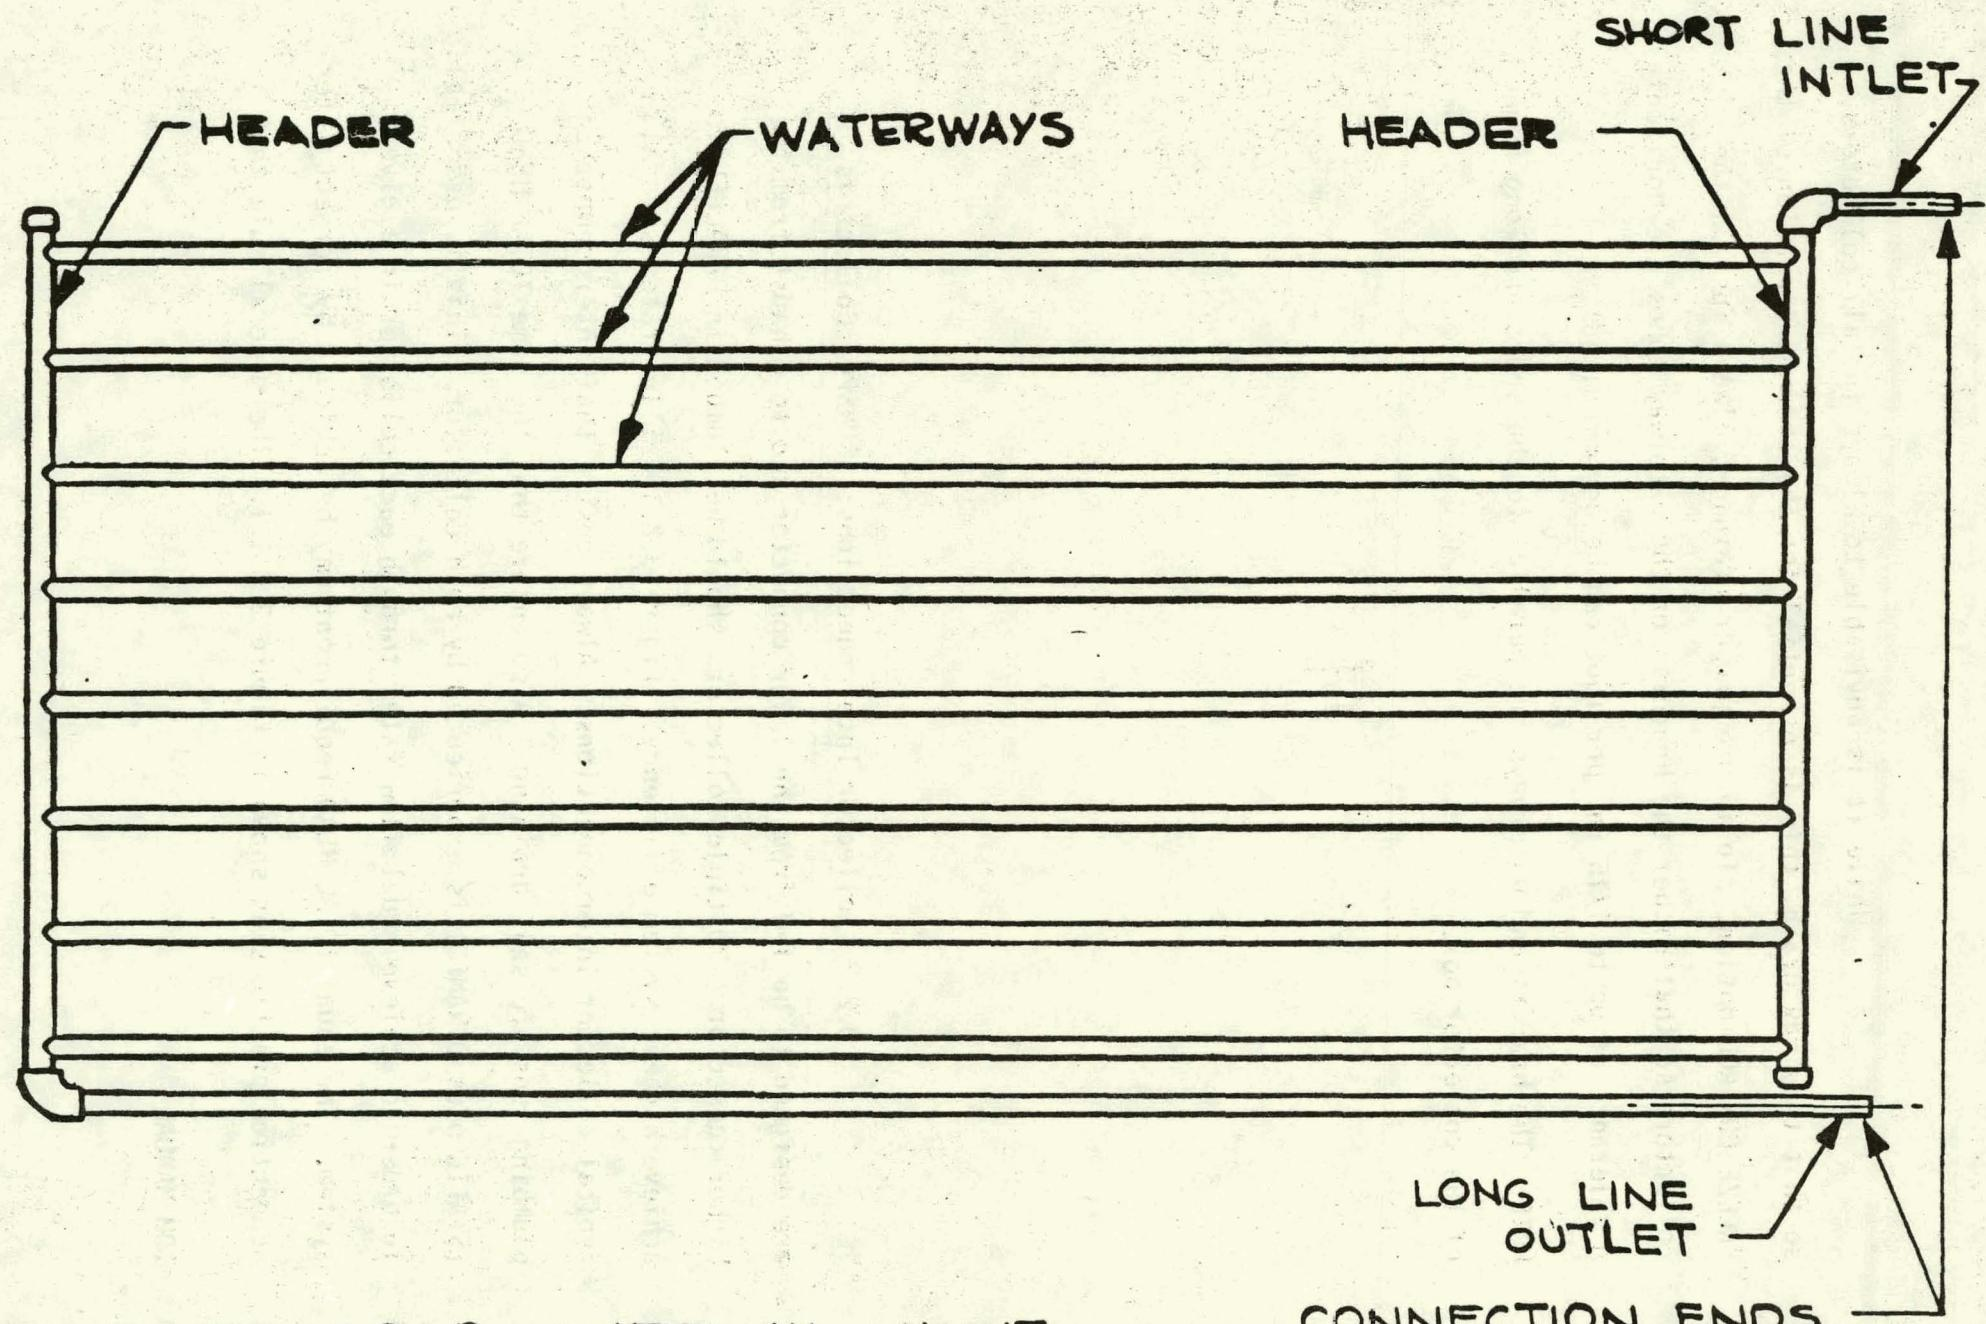

FIGURE 3.2.1.2 WATERWAY LAYOUT
3.2.2 Collector Interconnections: SUNSPOT Collectors are designed to be fed from the lower connector and to exhaust from the higher connector. Multiple collectors should be plumbed in PARALLEL to achieve highest system efficiency. Figure 3.2.1.1 illustrates several typical collector interconnections. Always ensure that interconnection plumbing runs are self draining. Also ensure that the same TOTAL HEAD (STATIC plus DYNAMIC) is experienced by each collector. This is essential in order to achieve equal flow rates through each collector in a given system. The equal TOTAL HEAD requirement may be achieved by correct interconnection practices as shown in Figure 3.2.1.1. The general rule that